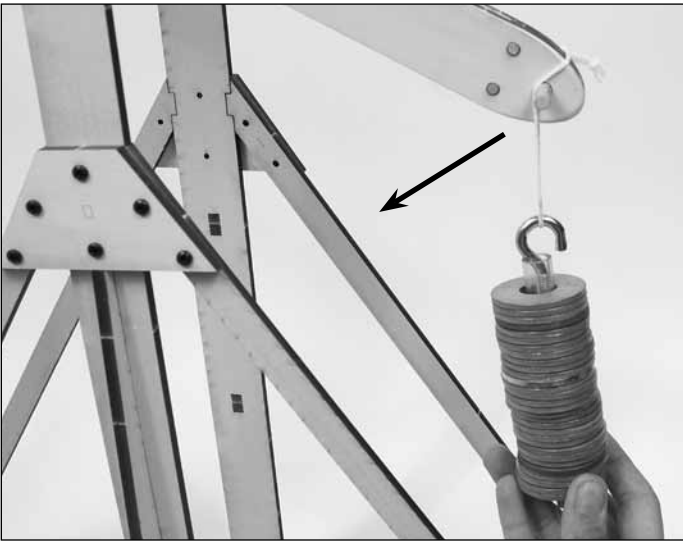

Figure 24
8. Find the twine and make a 3" to 4" loop on one end. Knot it securely and cut this loop from the length of twine. You can put a dab of glue on the knot to secure it. Place the loop under the arm end opposite the hook and over the dowel rod ends. Hang the counterweight on the loose end and let it hang down toward the floor plate (Figure 24 on next page).